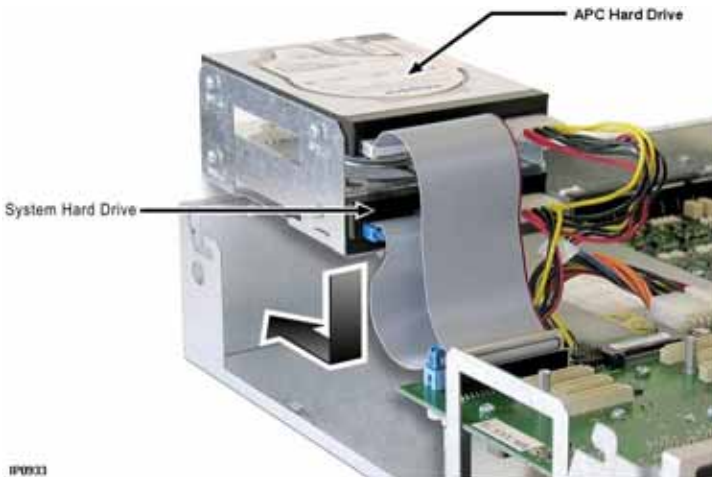

Figure 59: Connecting cables to APC-CX(i)
6. Connect the power and IDE cables to the corresponding connectors on the hard drive and main board. The cables are keyed for proper connection (see Figure 59).